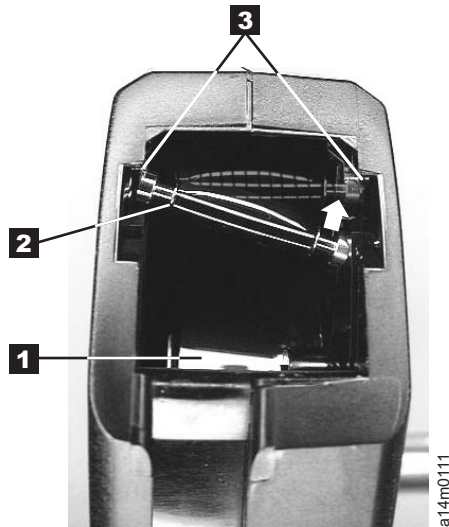

Figure 56. Placing the dislodged leader pin into the correct position.. The cartridge door is open, showing the leader pin out of position
1. Slide open the cartridge door (see **1** in Figure 56 on page 273) and locate the leader pin **2** (you may need to shake the cartridge gently to roll the pin toward the door).